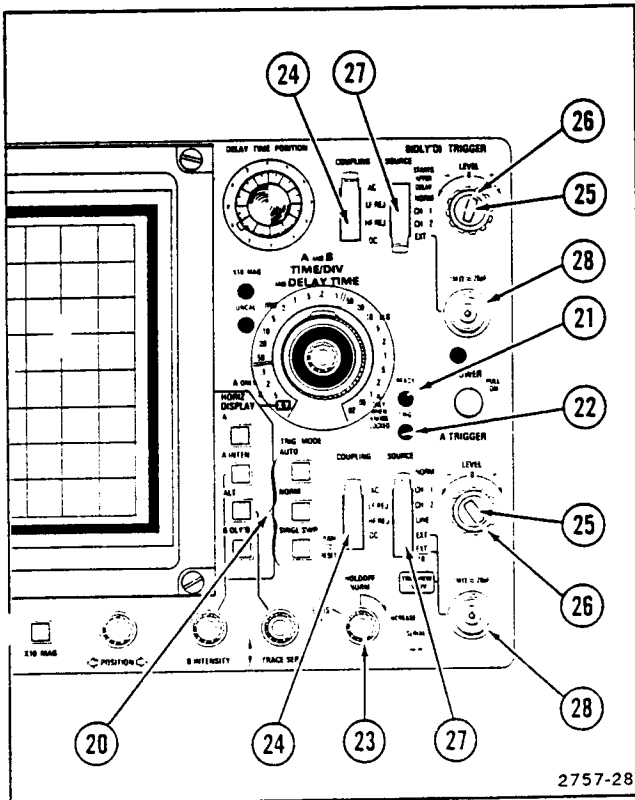

Figure 2-5. Trigger controls, connectors, and indicators.
Refer to Figure 2-5 for location of items 20 through 28.
- ①⑥ **CALIBRATOR Loop**—A combination 30-milliamp current loop and 0.3-volt square-wave voltage output (approximately 1 kilohertz) that permits the operator to compensate voltage probes and to check oscilloscope vertical operation. It is not intended to verify precise time-base calibration.
- ①⑦ **SCALE ILLUM Control**—Adjusts graticule illumination.
- ①⑧ **ASTIG Control**—Screwdriver control used in conjunction with the FOCUS control to obtain a well-defined display. It does not require readjustment during normal use of the instrument.
- ①⑨ **TRACE ROTATION Control**—Screwdriver control used to align trace with the horizontal graticule lines.
- ②⑦ **TRIG MODE Switches**—Three push button switches determine the mode of trigger operation for the A Sweep.